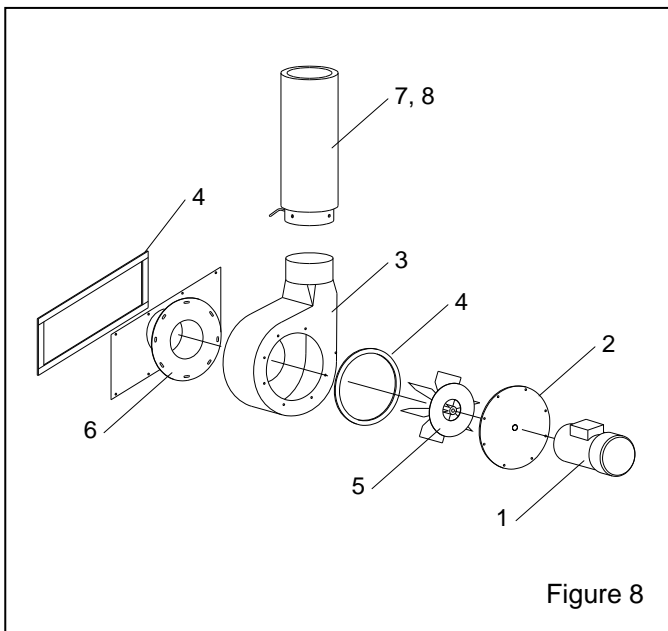

Figure 8
8.4 Exhauster Assembly, Figure 8